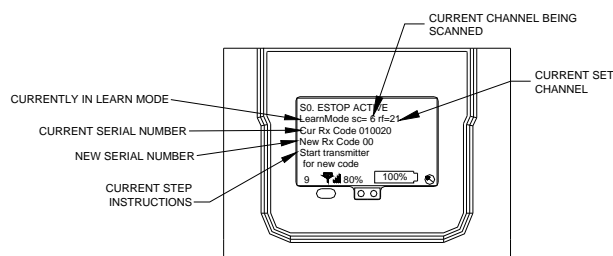
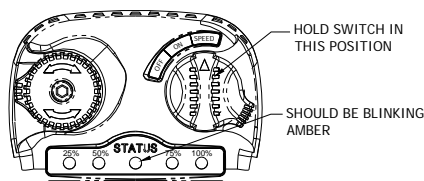

Figure 1—LCD screen display during step 2
Figure 2—Transmitter Switch Position
2. After the LEARN tag has been put into place and the receiver is powered up, it will begin to search for the proper Channel and Serial Number of the transmitter. **Note: The transmitter must be powered up and the start/speed button must be held in the “speed” position. Make sure the transmitter is blinking the amber led in the center. Reference figure 1 below for LCD screen display during this step. Reference figure 2 below for transmitter switch position.**